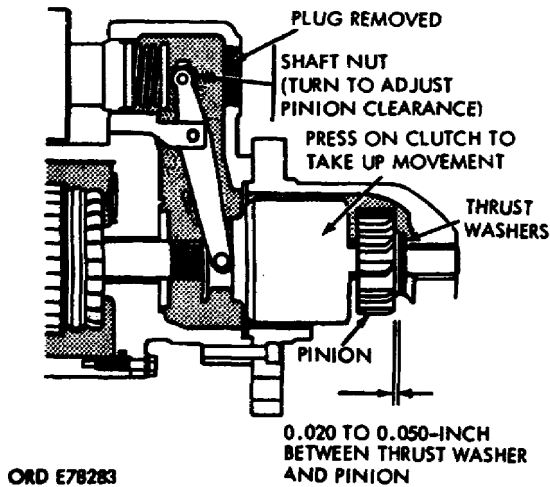

Figure 30. Pinion clearance.
(4) Install the drive assembly and yoke shift lever. Put the yoke cover in place and install the yoke pin for proper shift lever pivoting. Secure the yoke cover, observing that all seals and packing are in place.
(5) During installation of the solenoid relay there is a rubber boot that must be on the inside of the yoke cover and over the outside edge of the solenoid case for proper seal. Do not install inspection plug and gasket until final tests and adjustments are completed.
(6) Include the thrust washer during pinion housing installation. Next align the scribe marks on the pinion housing and intermediate housing. Torque tighten screws to 100 pound-inches.
g. Pinion clearance adjustments. The drive assembly is adjusted for proper shifting within the pinion drive housing. The clearance between the thrust washer and pinion is to be from 0.020 to 0.050 inch when the solenoid is energized (fig 30).
(1) To make this adjustment the starter motor is made inactive by disconnecting the field terminal and ground terminal on the starter frame.
(2) The solenoid is energized with a 24-volt battery. The pinion will move forward; therefore, before making the measurement, push the pinion back toward the armature to take up the slack movement.